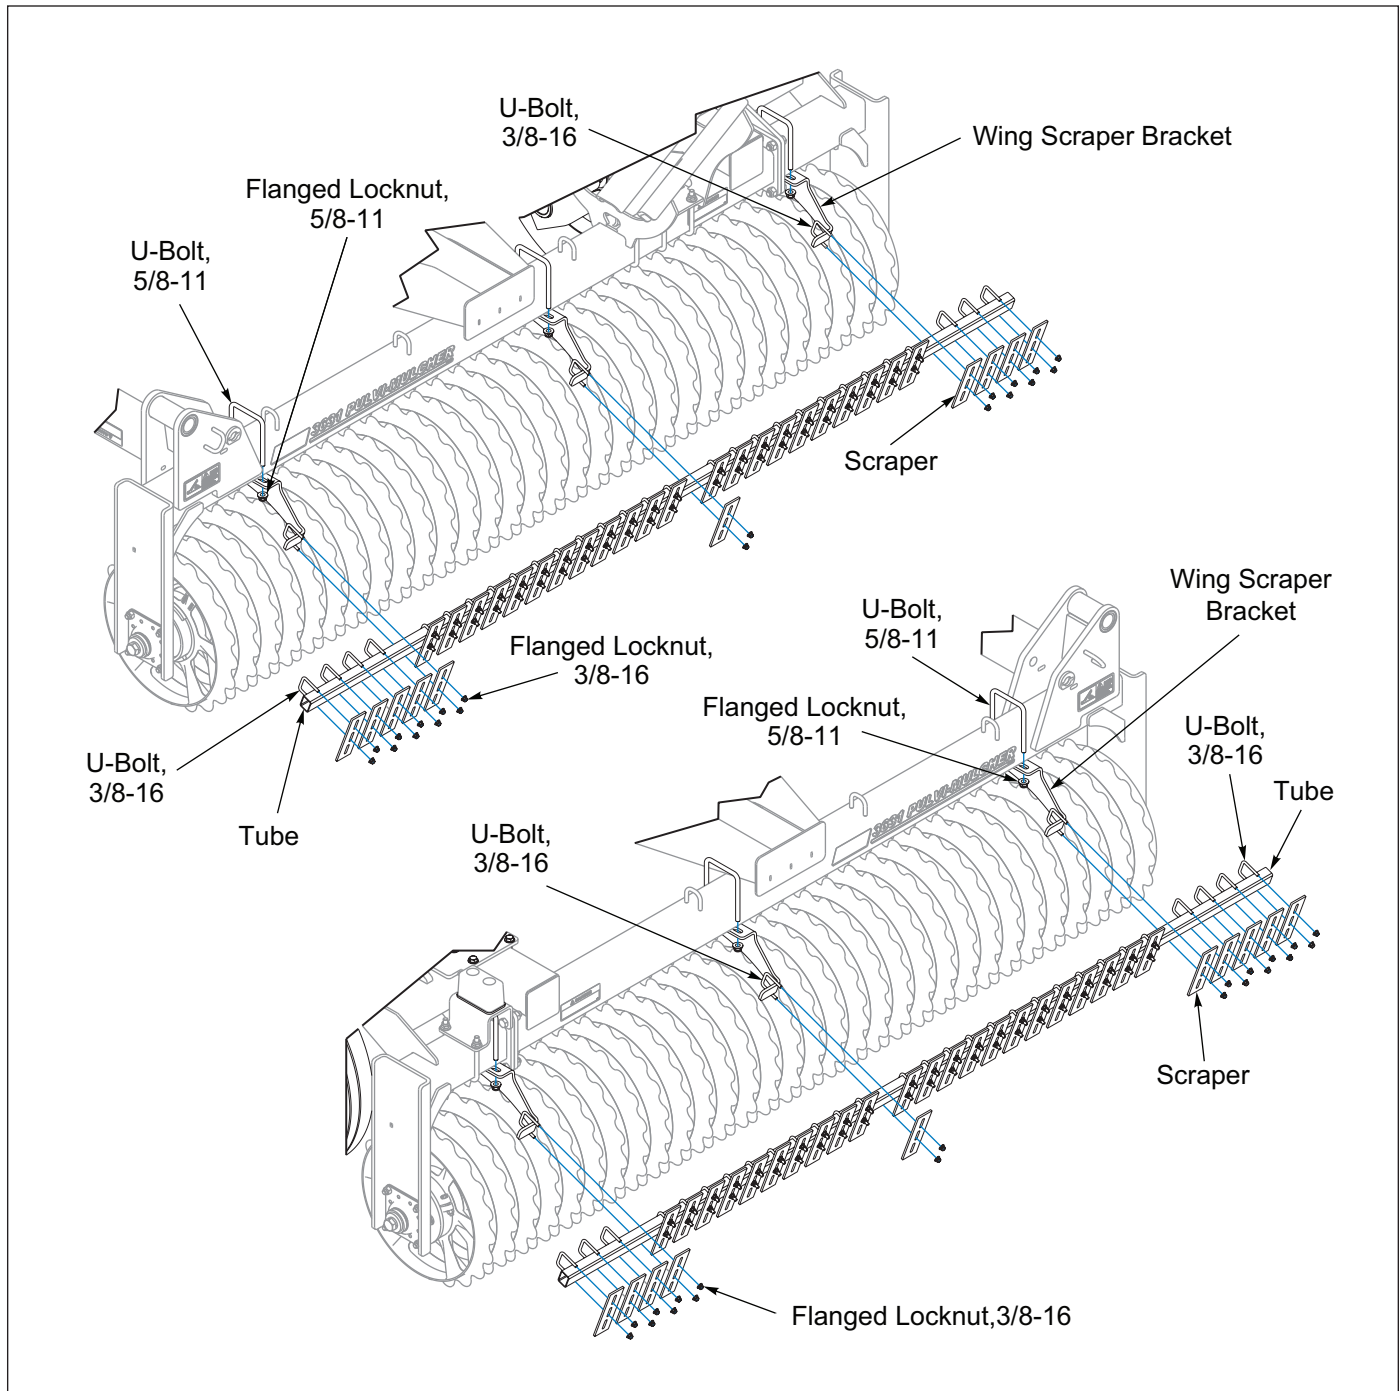

Figure 2-76: Wing Rear Scraper Installation
1. With the Wing Rollers on level ground, place the 5/8-11 U-bolts over the frame tube and through the Wing Scraper Brackets, secure with Flanged Locknut. See Figures 2-76 and 2-77.